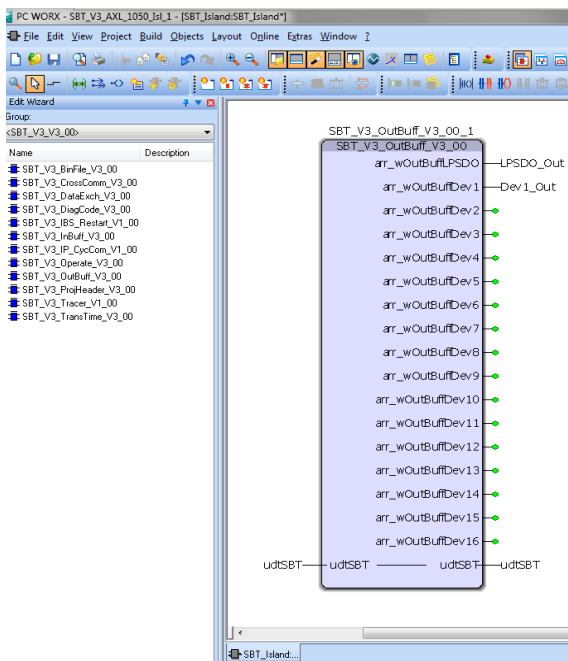

Figure 3-34 “SBT_V3_OutBuff_V3_00” function block
- Connect the function block as shown in Figure 3-34.